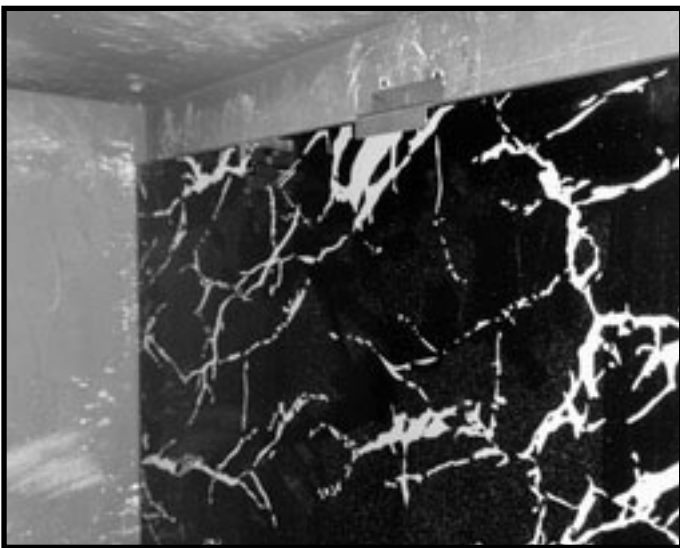

Figure 12 Place Refractory Brackets on Back Panel
3. Place two refractory brackets on the top of the panel, each approximately 12 inches from the left and right sides of the panel. Install the brackets using the included self-tapping screws. See Figure 12.